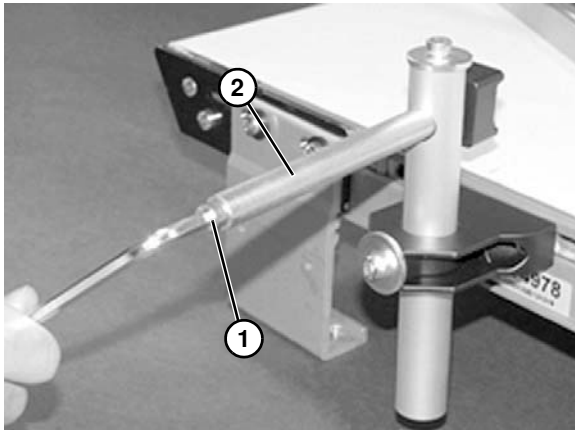
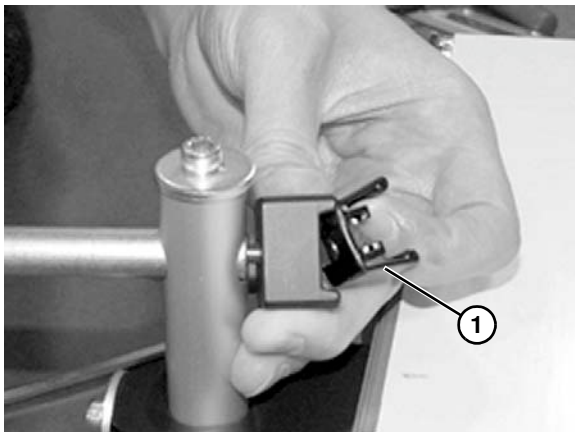
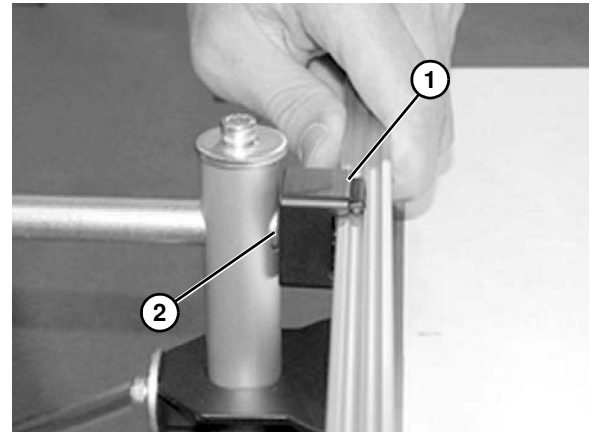

Figure 21
Figure 22
Figure 24
3. Loosen screw (**Figure 21, item 1**) on end of shaft (**Figure 21, item 2**) to remove clip (**Figure 22, item 1**).
5. Reassemble clip (**Figure 24, item 1**) and attach to shaft (**Figure 24, item 2**). Tighten screw (**Figure 21, item 1**) on end of shaft.